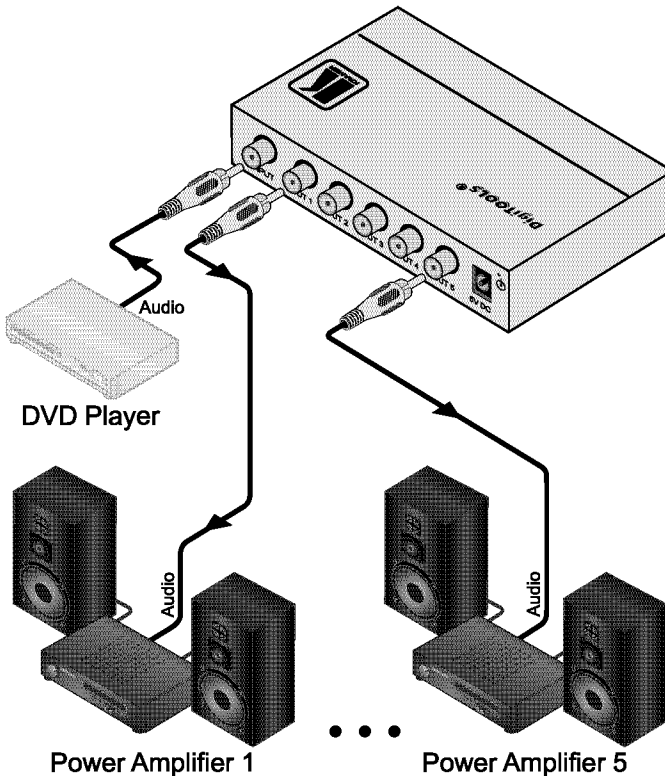

Figure 2: Connecting the 6505 1:5 S/PDIF Distributor
To connect your **6505 1:5 S/PDIF Distributor**, as illustrated in the example in Figure 2, do the following¹:
3. Connect the 5V DC power adapter to the power socket and connect the adapter to the mains electricity (not shown in Figure 2).